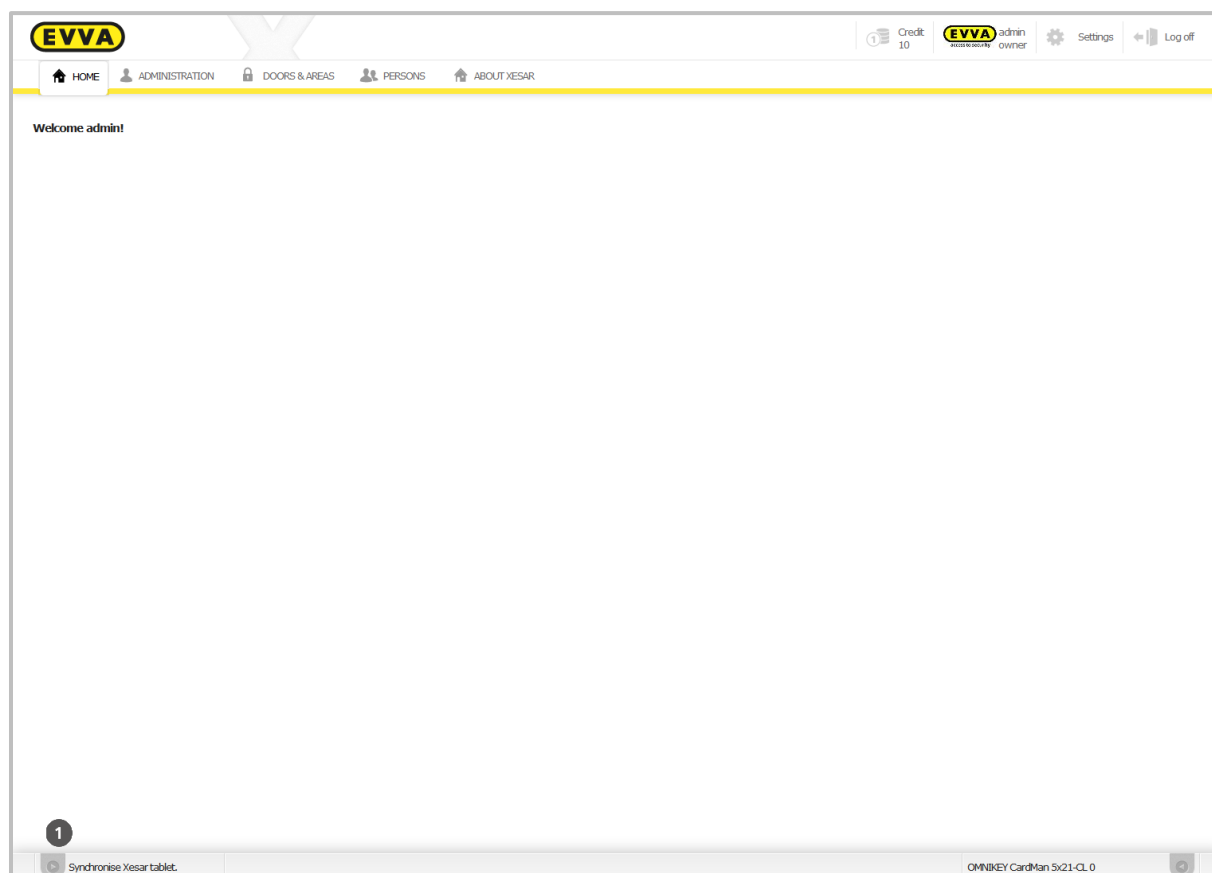

Figure 89: Synchronising data with the Xesar tablet
Connect your Xesar tablet to your PC and click ***Synchronise Xesar tablet*** ❶ (Figure 89: Synchronising data with the Xesar tablet) to start synchronisation.